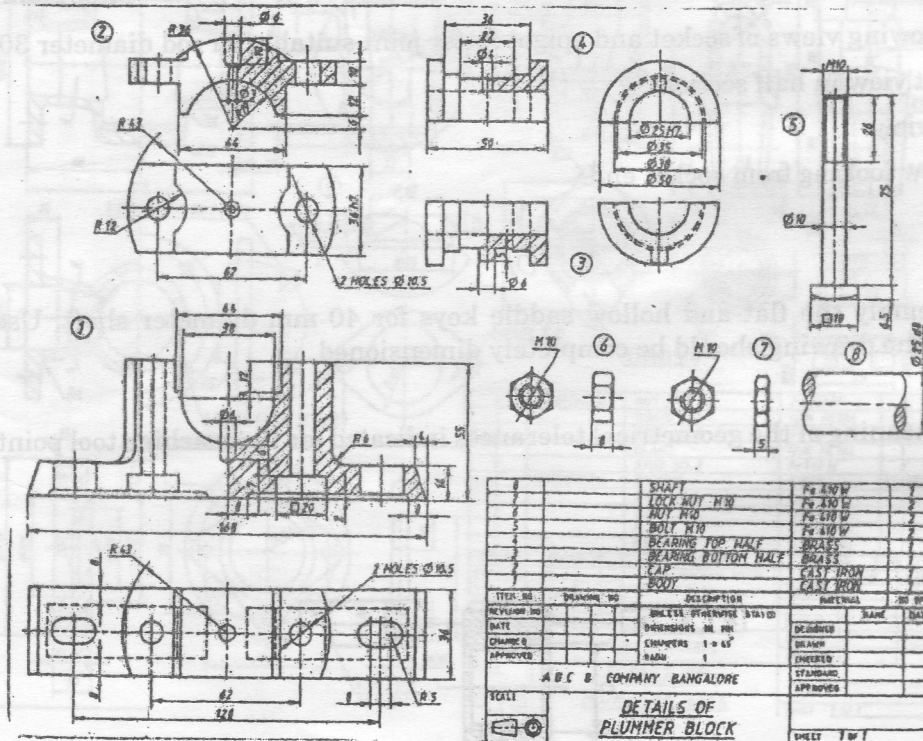

Fig. 2.
4. The parts of a Plummer Block are shown in Fig. 2. Assemble the parts and draw the following views :